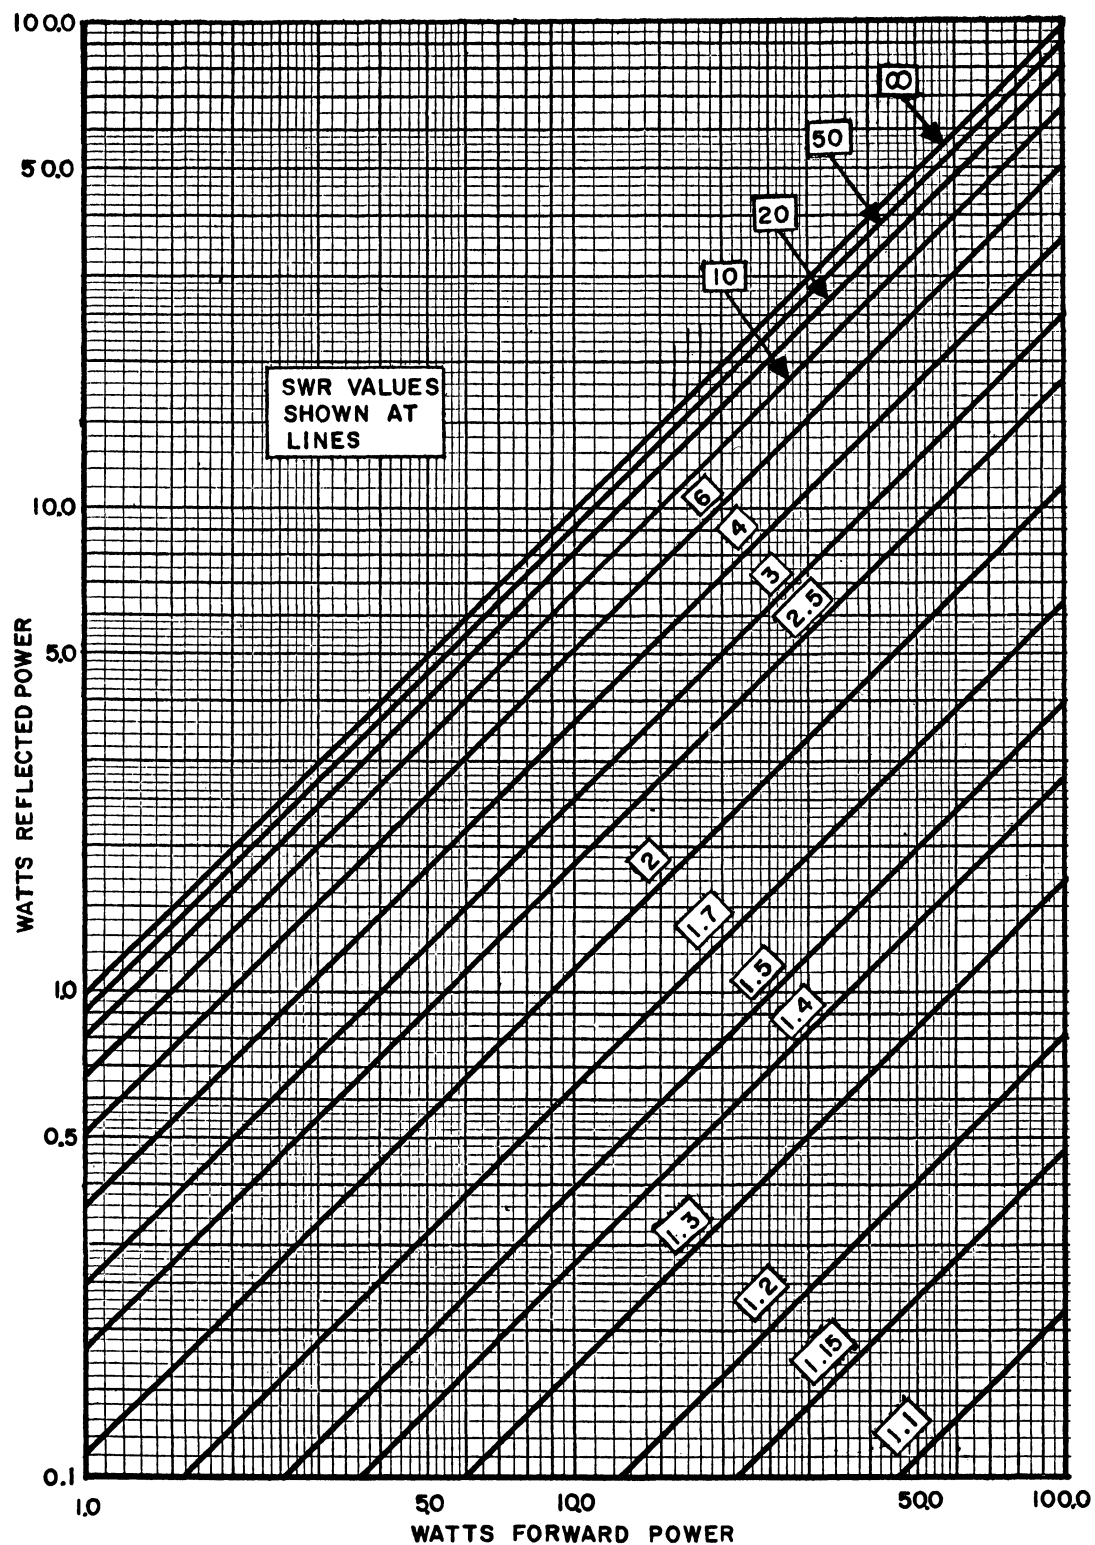

Figure 3-2. Voltage Standing-Wave Ratio Chart
d. Set power switch to REVERSE position and note meter reading. Use forward and reflected readings with vswr chart, figure 3-2, to compute standing-wave ratio of antenna and feed-line system. If the vswr is 2.5 to 1 or less, the directional wattmeter indications may be used to calculate the power delivered to the feed line by subtracting reflected power from forward power.